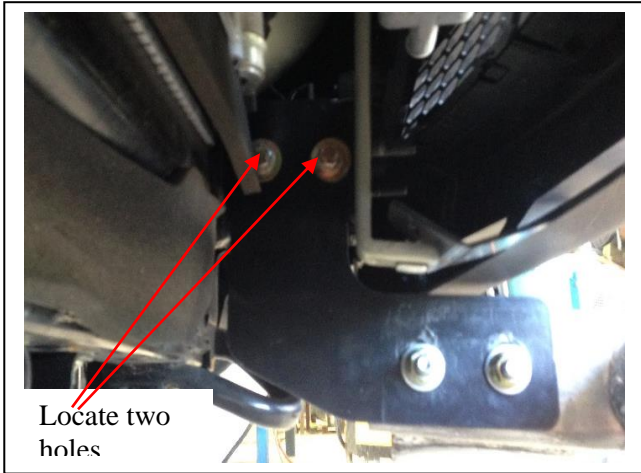

Figure 1 – Mounting bracket fitted
1. From under vehicle, locate the two holes through the chassis rails each side of the vehicle, directly behind the front impact member. **See figure 1**